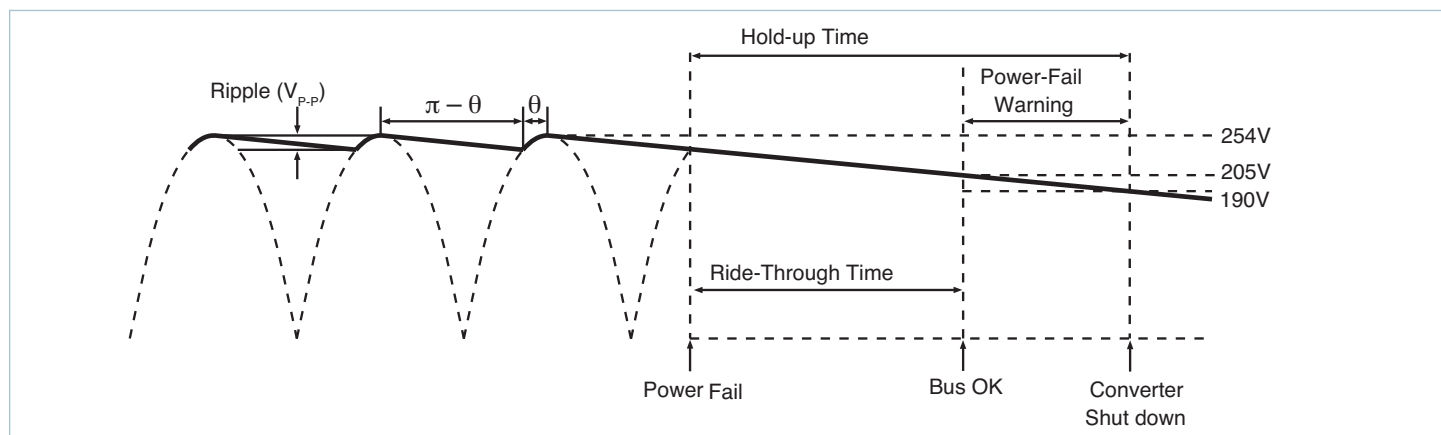

Figure 9.13 — General timing diagram of bus voltage following interruption of the AC mains
Hold-up Capacitors: Hold-up capacitor values should be determined according to output bus voltage ripple, power-fail hold-up time, and ride-through time. (Figure 9.13) Many applications require the power supply to maintain output regulation during a momentary power failure of specified duration, i.e., the converters must hold-up or ride-through such an event while maintaining undisturbed output voltage regulation. Similarly, many of these same systems require notification of an impending power failure in order to allow time to perform an orderly shutdown.
The power-fail warning time (Δt) is defined as the interval between Bus OK and converter shutdown (EN) as illustrated in Figure 9.13. The Bus OK and Enable thresholds are 205 and 190V, respectively. A simplified relationship between power fail warning time, operating power and bus capacitance is obtained by inserting these constants in Equation 3:
Equation 3 is again used to determine the required capacitance. In this case, V_1 and V_2 are the instantaneous values of bus voltage at the peaks and valleys (Figure 9.13) of the ripple, respectively. The capacitors must hold up the bus voltage for the time interval (Δt) between peaks of the rectified line as given by: